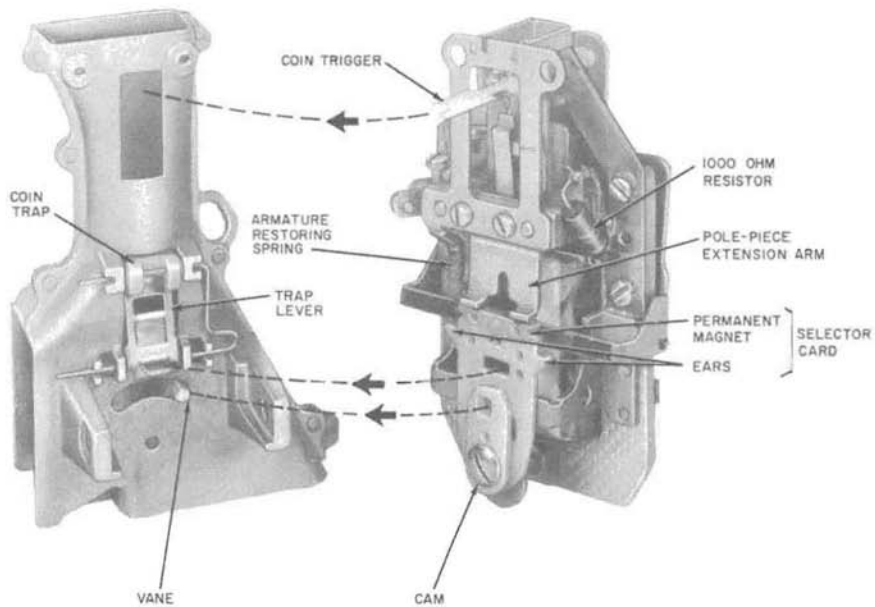

Fig. 11—Coin Hopper and Rear View of Coin Relay (Typical)
- (1) Move vane to right.
- (2) With trigger tripped, place relay on hopper.
- (3) Slide relay back until trigger enters opening in hopper and trap-lever tab enters slot in selector card (Fig. 11).
- (4) Close armature manually by pressing downward on ear on left side of selector card.
- (5) Slide relay back, vane stem should enter hole in cam and mounting screw holes should line up.
- (6) Replace mounting screws.
- (7) Trigger should have some end play and armature, trap, and vane should operate and release without binding.
- (8) If trigger binds, loosen upper mounting screws.
- (9) If trigger is free with upper mounting screws loose, retighten screws evenly.
- (10) Replace relay if trigger still binds.
- (11) Connect the two leads to terminals G and 3 on coin relay.